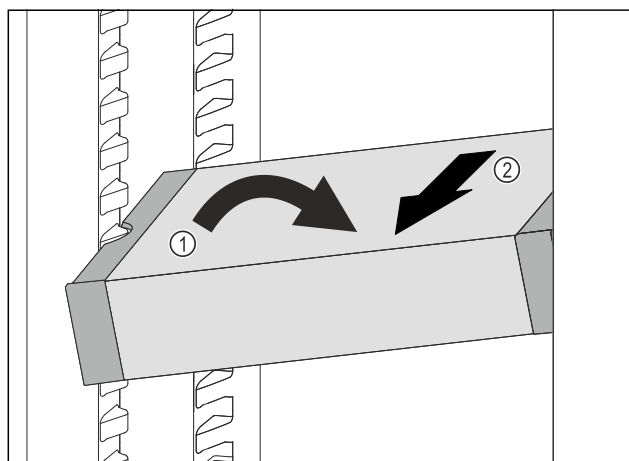

Fig. 113
- Set VarioSafe in refrigerator compartment at an angle. Fig. 113 (1)
- Take VarioSafe out to the front. Fig. 113 (2)